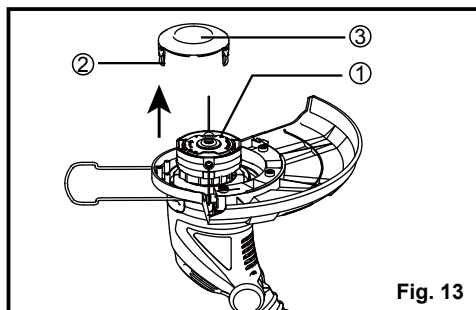

Fig. 13
- To remove the spool ①, depress the thumb tabs ② and remove the spool cover ③ from the housing, then remove the empty spool (Fig. 13).